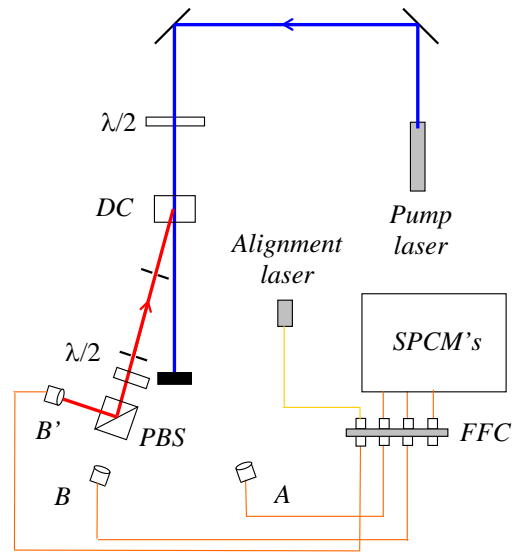

Fig. 4. Aligning the B' detector.
- Unscrew the **B**-fiber from the alignment laser, and reconnect it to the fiber leading to the detector. Connect the **B'**-fiber to the alignment laser, as shown in Fig. 4. At this point the beam won't go back through the irises.